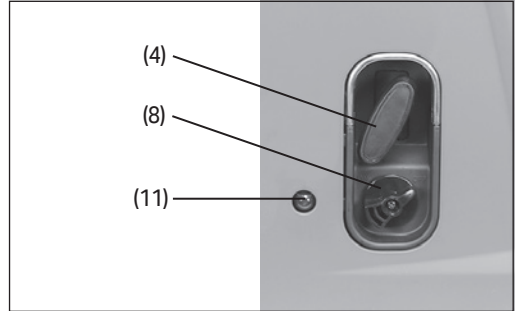

Fig. 8
2. Hold the fuel tank cap (5) to prevent it from moving and turn the air vent knob (6) to the open position.
3. Ensure that the spark plug cover is connected and turn the fuel tap (8) to the 'ON' position. (Fig.8).